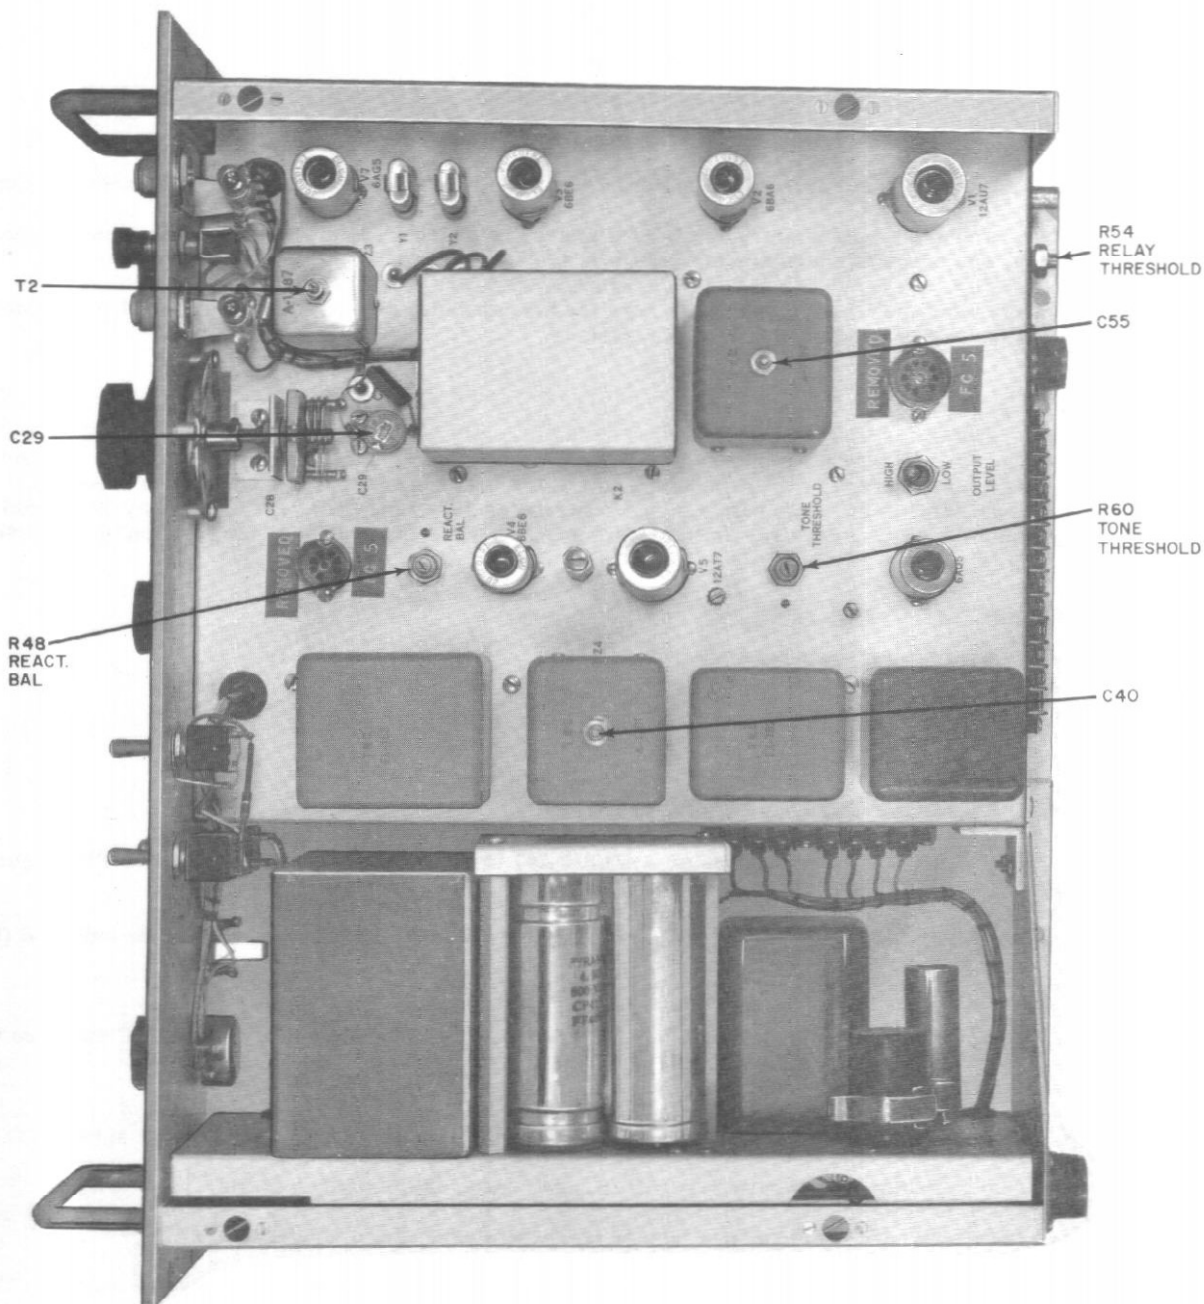

Figure 6-1. Single Sideband Converter CV-591A/URR, Alignment Setup
6.2.1 Alignment of Converter Using a Frequency Counter. The oscillators have been aligned to their correct frequencies at the factory. Readjustment will be required only if the performance of the converter is impaired (i. e. , when the bandsread oscillator is off scale with a signal centered on 455 kHz). The oscillators may be aligned with either a frequency counter or with a receiver as the signal source. Refer to figure 6-1 for location of converter adjustment points.
7. Depress SIDEBAND switch so that the lamp on the left of the switch is lit (normally lower sideband (L)).
8. Adjust variable capacitor C29 (figure 6-1) until counter reads 438.000 kHz \pm 15 Hz.
3. Adjust C40 (p/o Z4) (figure 6-1) until counter reads 17 kHz \pm 10 Hz.
12. Compare the counter readings noted in steps 6, 7, 10, and 11. They should be 4 kHz above and 4 kHz below the upper (472.000 kHz) and lower (438.000 kHz) sideband frequencies. If these readings are off more than 500 Hz, adjust REACT BAL control R48 (figure 6-1) for proper balance.
7. Adjust TONE THRESHOLD control R-60 (figure 6-1) to mid range then turn a little on either side of mid range until counter begins to count and adjust for the highest frequency reading on the counter that is stable.
8. Adjust C55 on top of Z5 (figure 6-1) for a reading of 2500 ± 100 Hz.